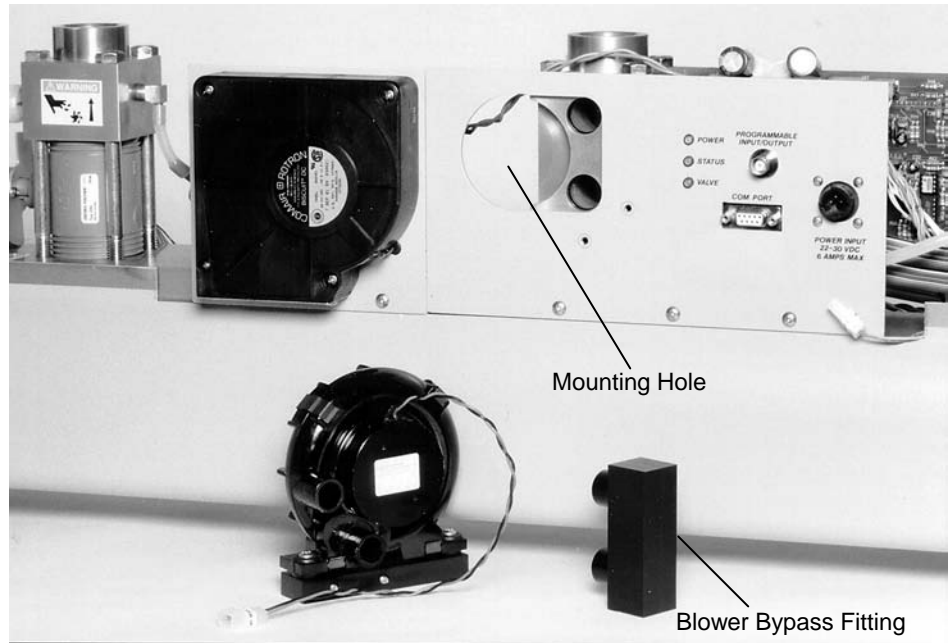

Figure 2-8
5. Install the external blower bypass fitting by pressing it into the hole in the mounting plate (Figure 2-8) and reattaching the blower bracket.